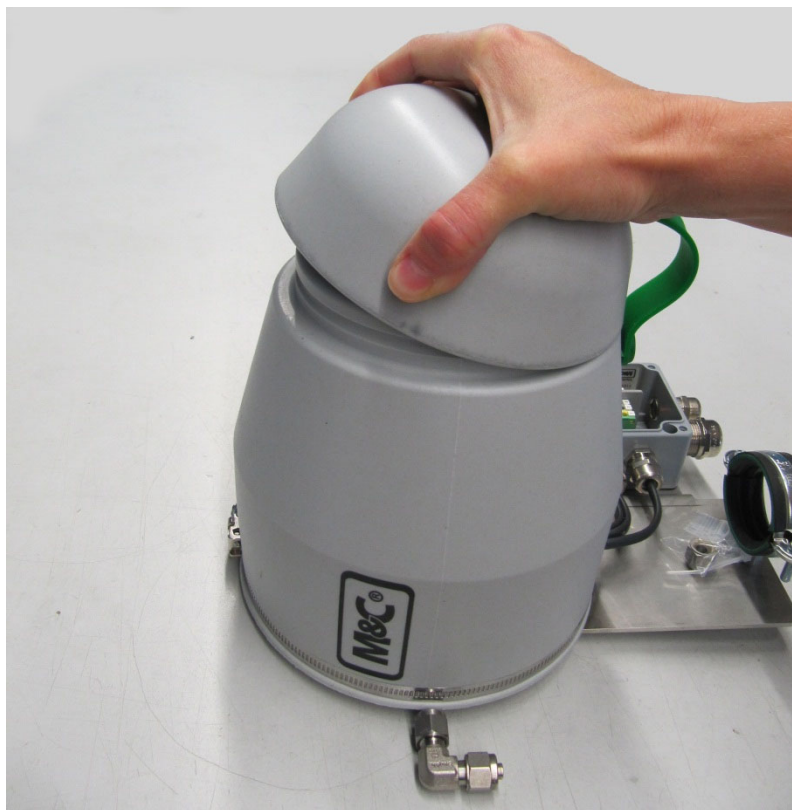

Figure 4 Opening of the insulation cap
- Remove insulation cap ① by squeezing and lifting the cap (see Figure 4).